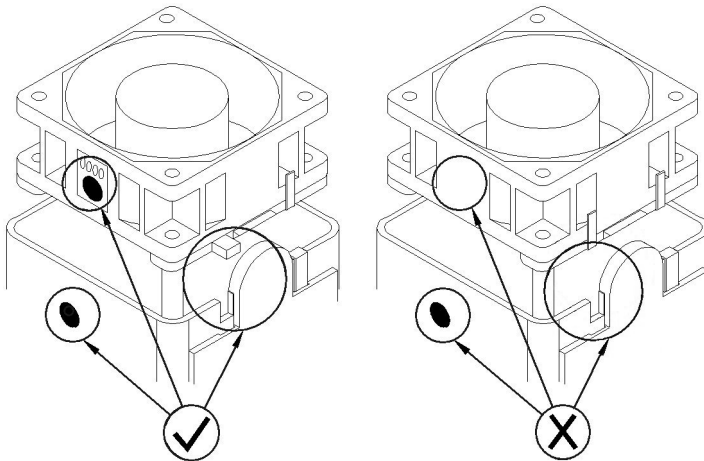

Fig 4
4. Refit the fan module into the cover assembly ensuring correct orientation as shown in Fig 4.